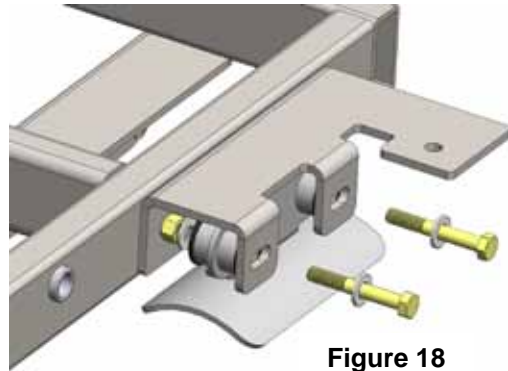

Figure 18
- Install muffler brackets to body mount frame using 5/16" supplied hardware in kit. See Figure 18